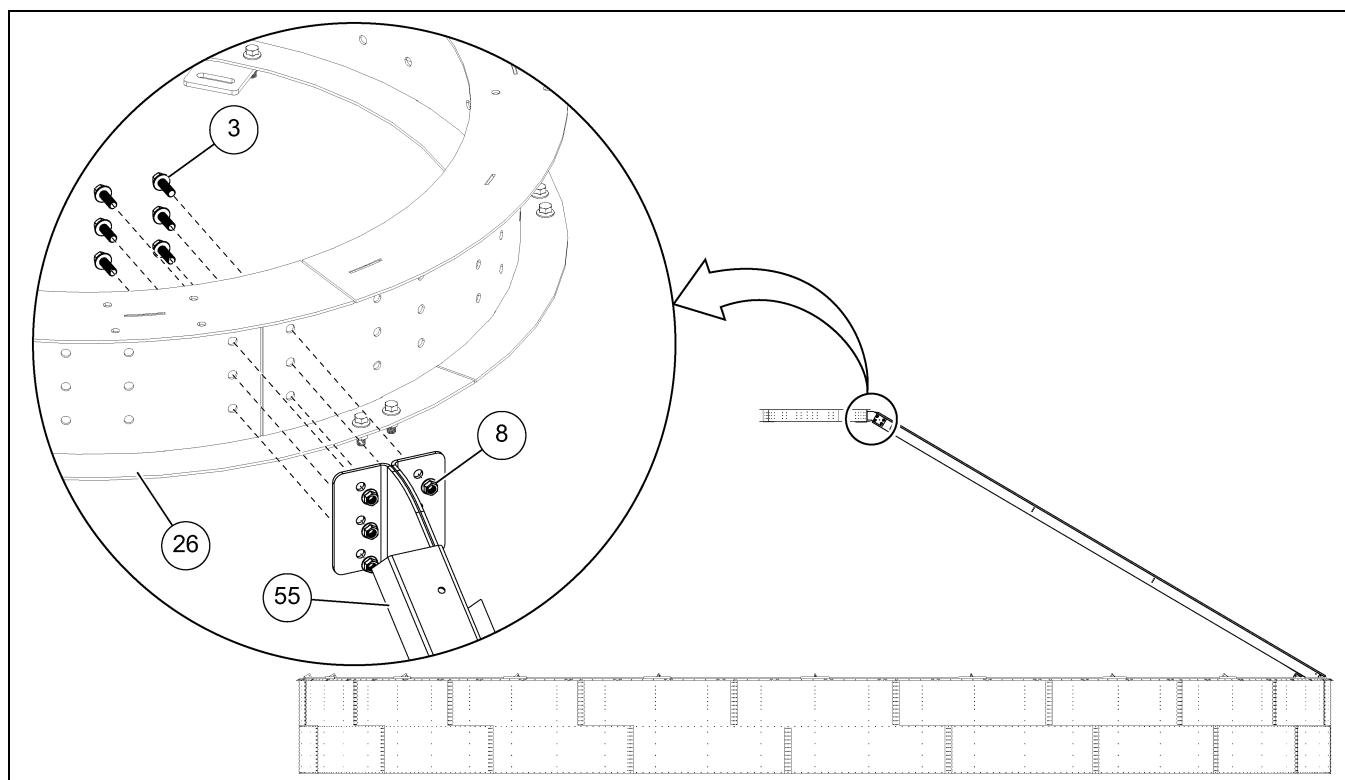

Figure 4K Attaching the A-Frame to the Center Collar
1. Carefully lift the rafter assembly (55) into position and align with the proper holes on the center collar (26).
2. Install 7/16" x 1-1/4" flange bolts (3) and 7/16" flange nuts (8) to securing the rafter assembly (55) to the center collar (26). *(See Figure 4K.)*
3. Before continuing with the remaining rafter assemblies, secure the rafter (55) to the eave bracket. See attaching the rafter to the eave bracket on Page 25.